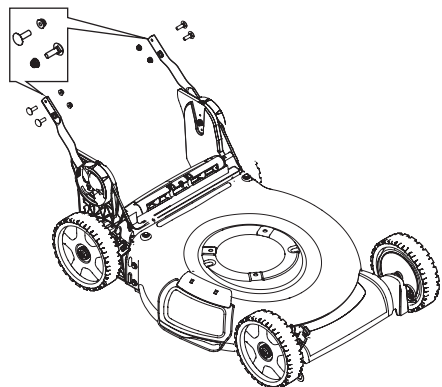

Figure 6
1. Remove the four carriage bolts and nuts from the lower handles (Figure 6).